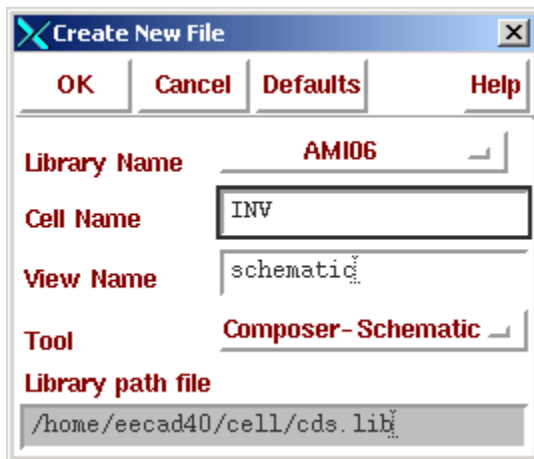

Figure 11: Creating a new cell view
2. Fill out the pop up exactly according to Figure 11.